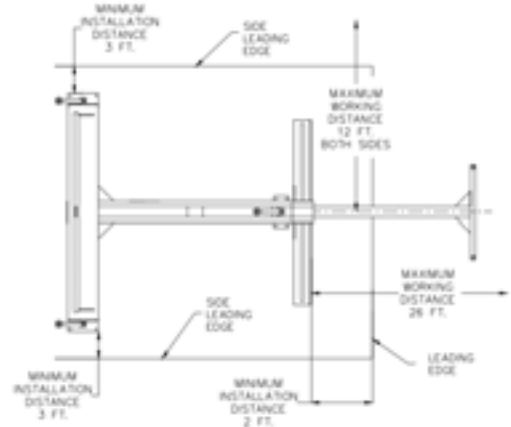

Figure 3
- a. Ensure the unit has been placed at a minimum of 2 feet from the front of the unit to the leading edge of the work surface and 3 feet from either side of the unit to the side edge of the work surface. (Fig. 3)